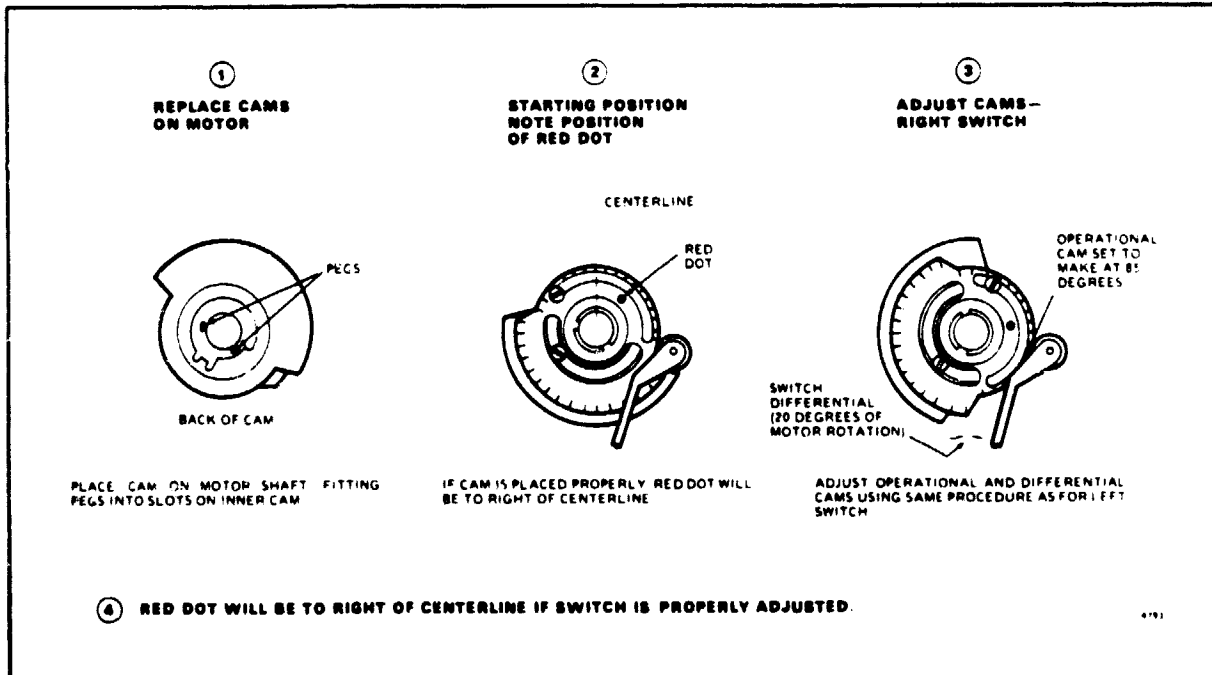

FIG. 11-ADJUST MAKE AND BREAK POINTS OF RIGHT AUXILIARY SWITCH (M941D ONLY).
6. On the M941D, put right switch cams on motor shaft and adjust right switch. See Fig. 11.